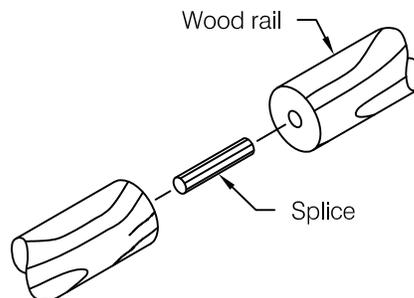

fig 8
- A maximum of 3" from end of wood at splice to provide support at splice, see **fig 8**
- Step 11:** Refer to **fig 8** for splicing of wood rail. Locate splice a maximum of 3" from bracket. Using BRJ-1600 installation jig, drill 3/16" diameter pilot hole 1" deep in opposing ends of wood rail. Using a 3/8" diameter drill increase pilot hole for 3/8" diameter dowel pin. Apply a small amount of adhesive in each hole, insert dowel pin, and butt rails tightly together.